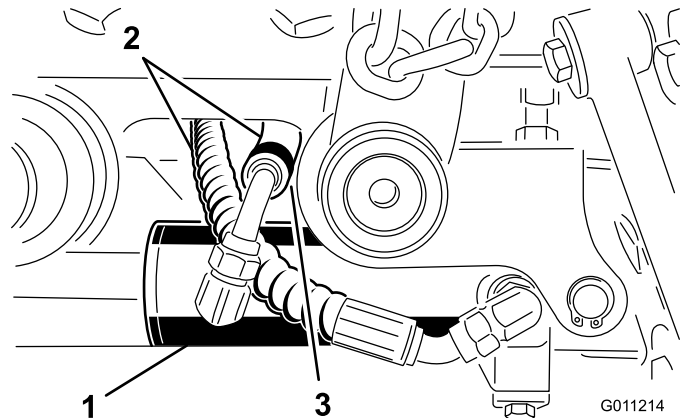

Figure 16
6. Secure the right end of the lift cylinder to the right lift arm with a pin and 2 spacers (Figure 16). Secure it with a retaining ring.
Note: With the lift arms fully raised, the hoses should be routed as shown in Figure 16 and clear the lift arm by 0.04 to 0.12 inch (1 to 3 mm).